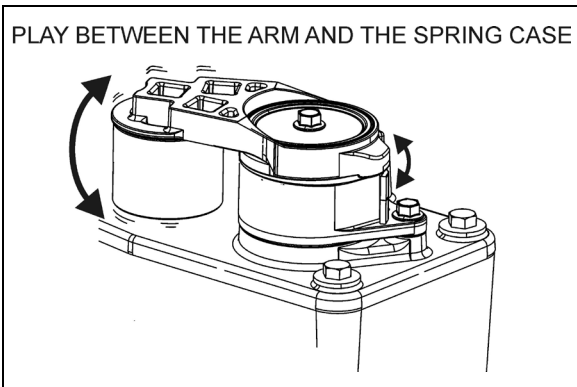

FIGURE 26: CHECKING BUSHING WEAR
2. Pry the automatic belt tensioner arm and check for a play between the arm and the spring case (**FIGURE 26**).